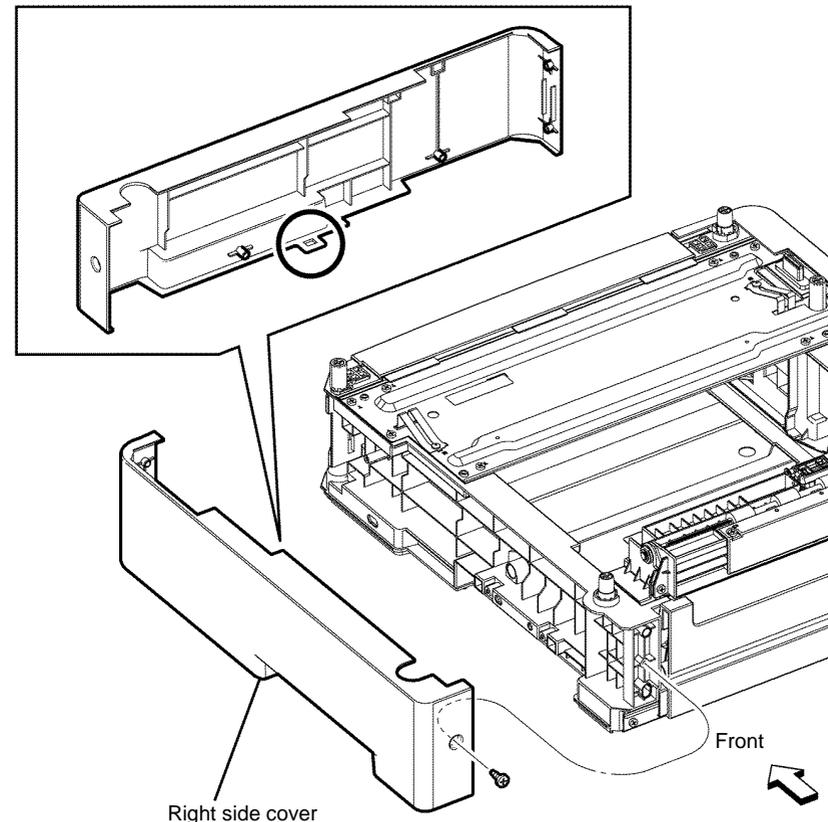

Figure 1 Option feeder right cover removal
- Remove one screw (silver, tapping, 8mm) that fixes the option feeder right cover, release the two hooks from the bosses, release the six bosses from the holes, then remove the option feeder right cover, Figure 1.